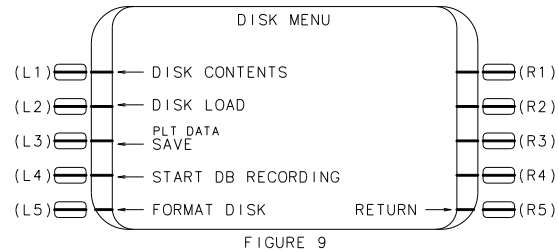

FIGURE 9
- PRESS MENU FUNCTION KEY TO DISPLAY DISK MENU PAGE. (REF FIGURE 9)